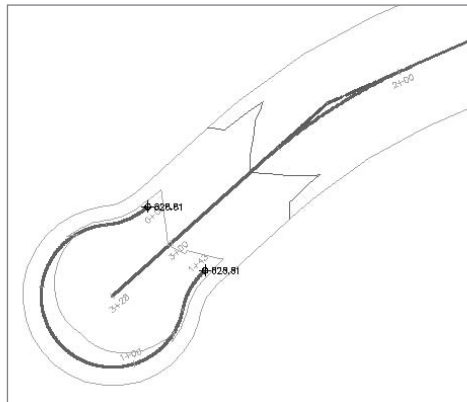

Figure A.84
12. Note that your surface is now limited to the area inside the interactive boundary. Temporarily freeze the C-ROAD-CORR layer to see the results, as shown in Figure A.84.